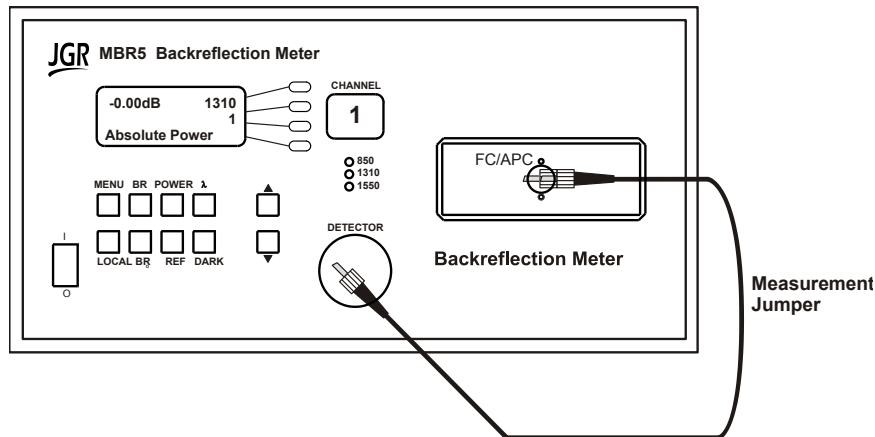

Figure 9: Loss and Power Measurements
9. Press REF key to take a reference. The display reads 0.00 dB. The loss of the measurement jumper is subtracted from the DUT loss or power measurement to be made (see Figure 9).